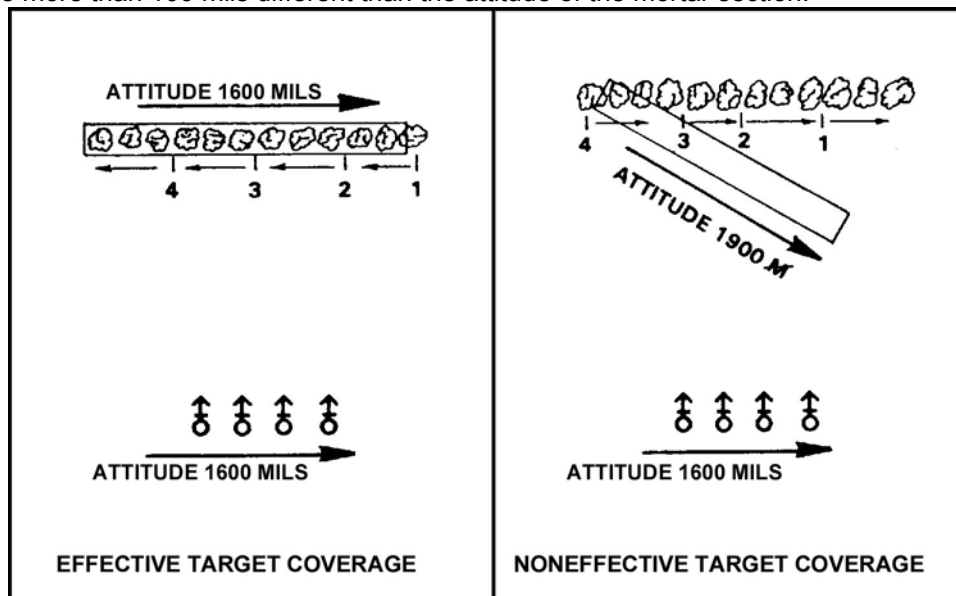

Figure 1. Traversing fire.
- b. To effectively engage a target using traversing fire (Figure 1), the attitude of the target cannot be more than 100 mils different than the attitude of the mortar section.